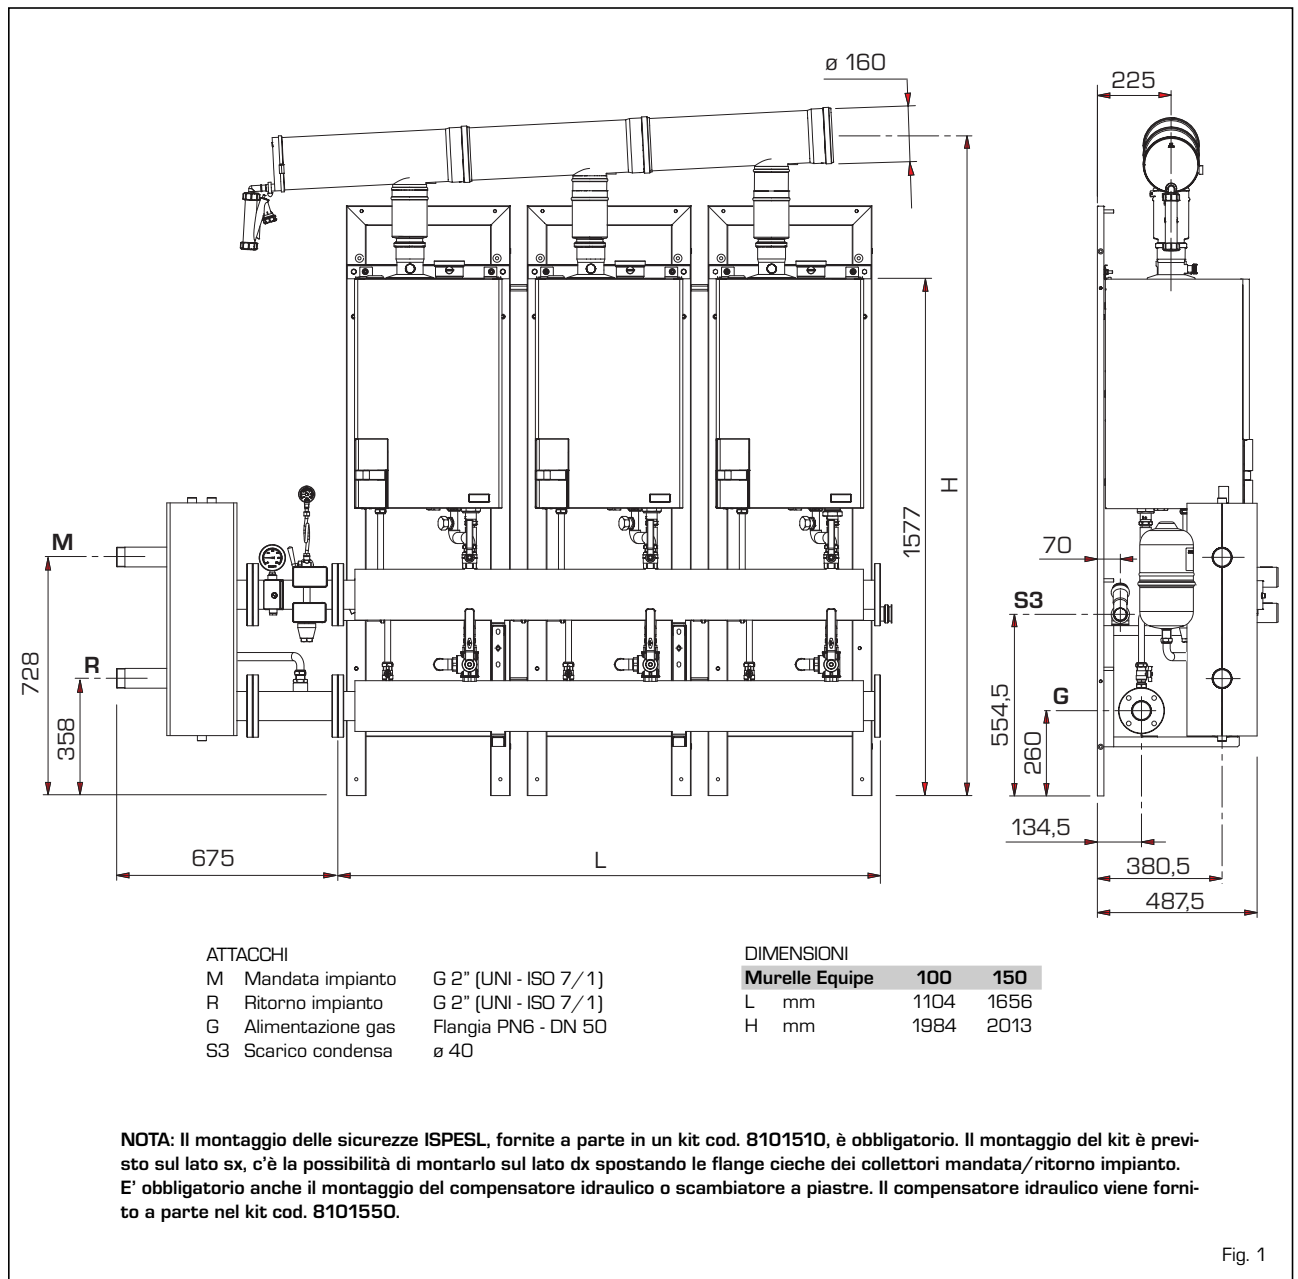

Fig. 1
1.2 DIMENSIONI E ATTACCHI (fig. 1)